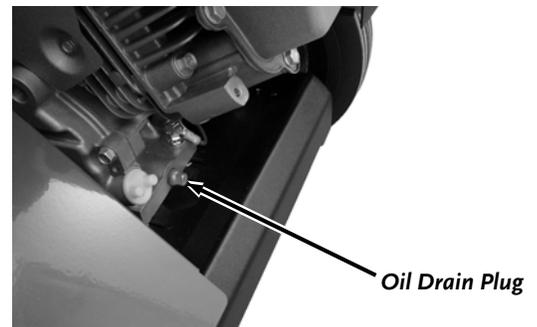

Figure 15
1. Put Blocks under the Frame so the Engine is level and you can position a Waste Oil Container under the Oil Drain Plug (**Figure 15**).